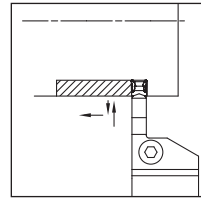

fig. 1
1) Groove depth less than 0.5mm: For Finishing (See Fig. 1)